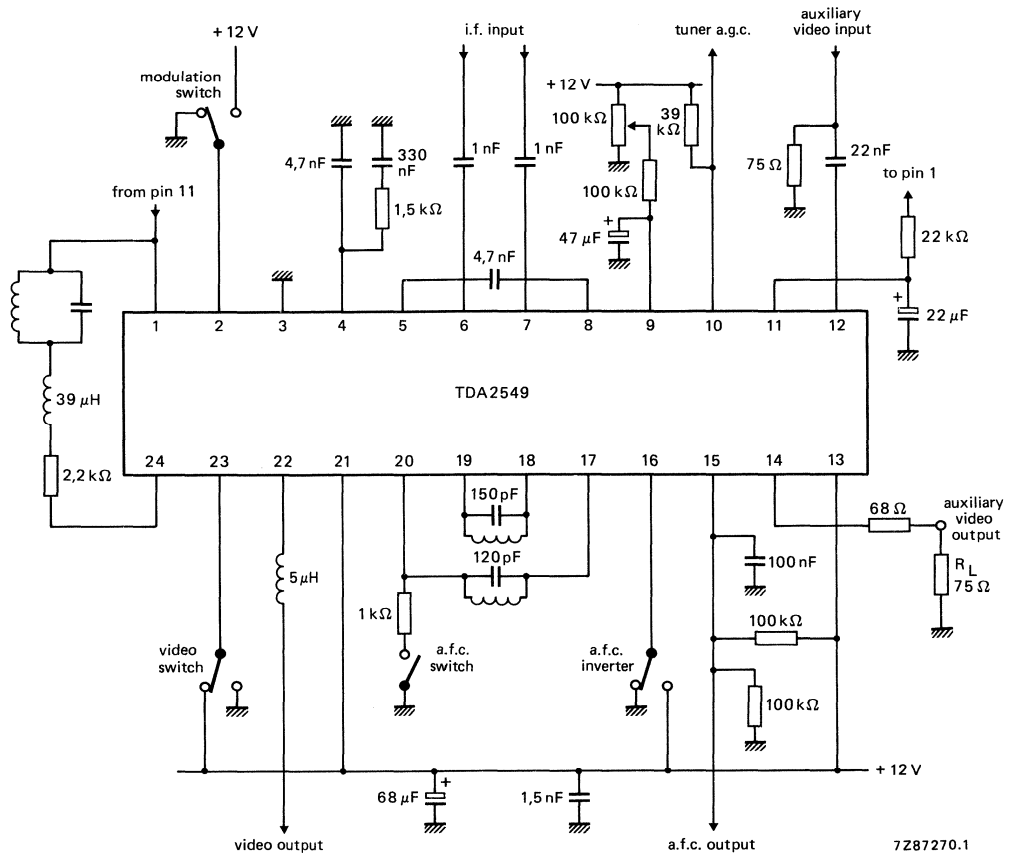

Fig. 5 Application diagram.
**CHARACTERISTICS** (measured in Fig. 5) $V_p = 12\text{ V}$ ;  $T_{amb} = 25\text{ °C}$
2. Measured in application of Fig. 5.